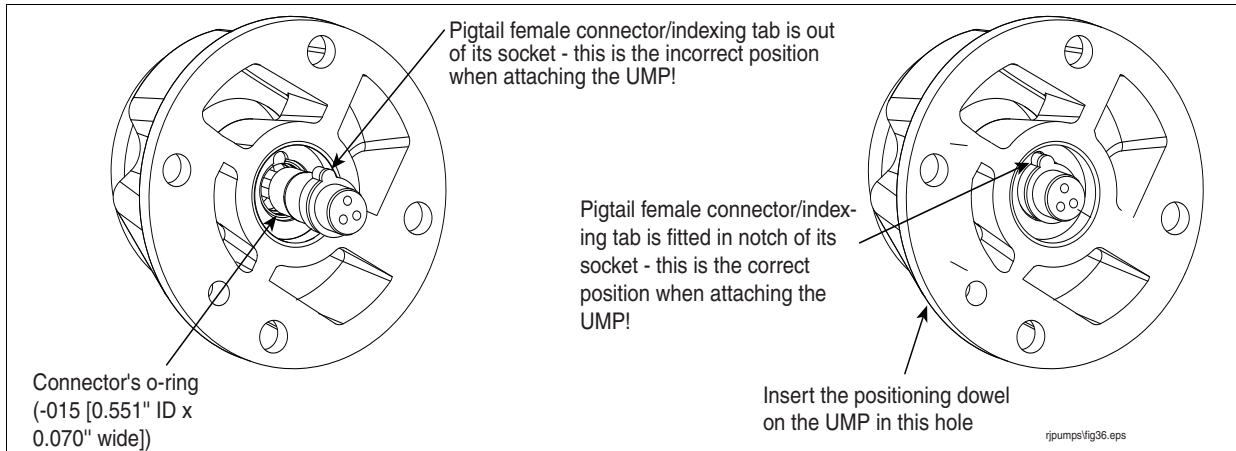

Figure 7. Verifying Pigtail's Female Connector Is Seated Properly
1. Visually inspect the pigtail connector in the end of the discharge head. Be certain the pigtail connector is seated in its socket and its index tab is in the socket's notch (see Figure 7).
3. Align the UMP positioning dowel insert in the proper hole in the discharge head (see Figure 7) and push the UMP into position using hand force only. The UMP should be snug against the discharge head prior to installing the UMP retaining bolts.